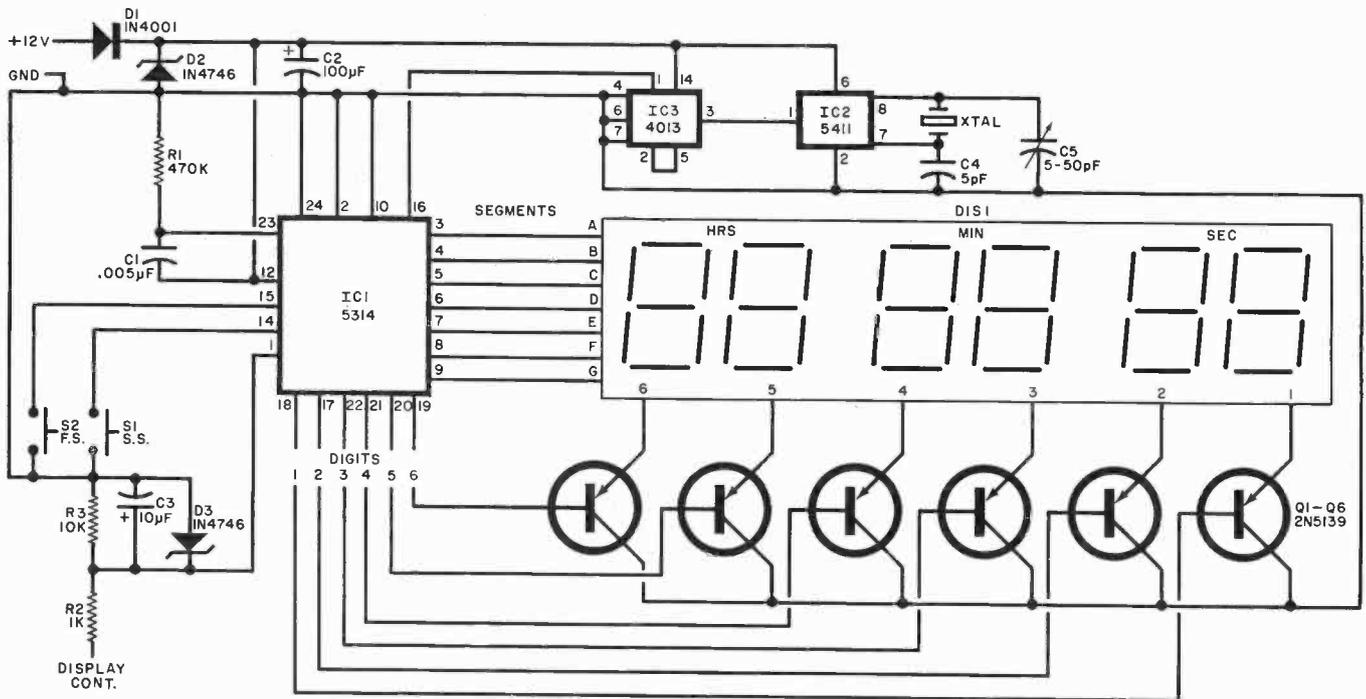

Fig. 1. Crystal oscillator is counted down by IC2 and IC3 to drive clock circuit in IC1.
**Circuit Operation.** Timing for the clock (Fig. 1) is derived from a crystal-controlled oscillator operating at 6.5536 MHz. This is part of *IC2*. Also in *IC2* is a 16-stage binary counter that delivers an output of 100 Hz at pin 1. Trimmer capacitor *C5* is used to adjust the frequency (hence clock time keeping) for the desired accuracy. The 100-Hz output of *IC2* drives a divide-by-two flip-flop in *IC3* whose output at